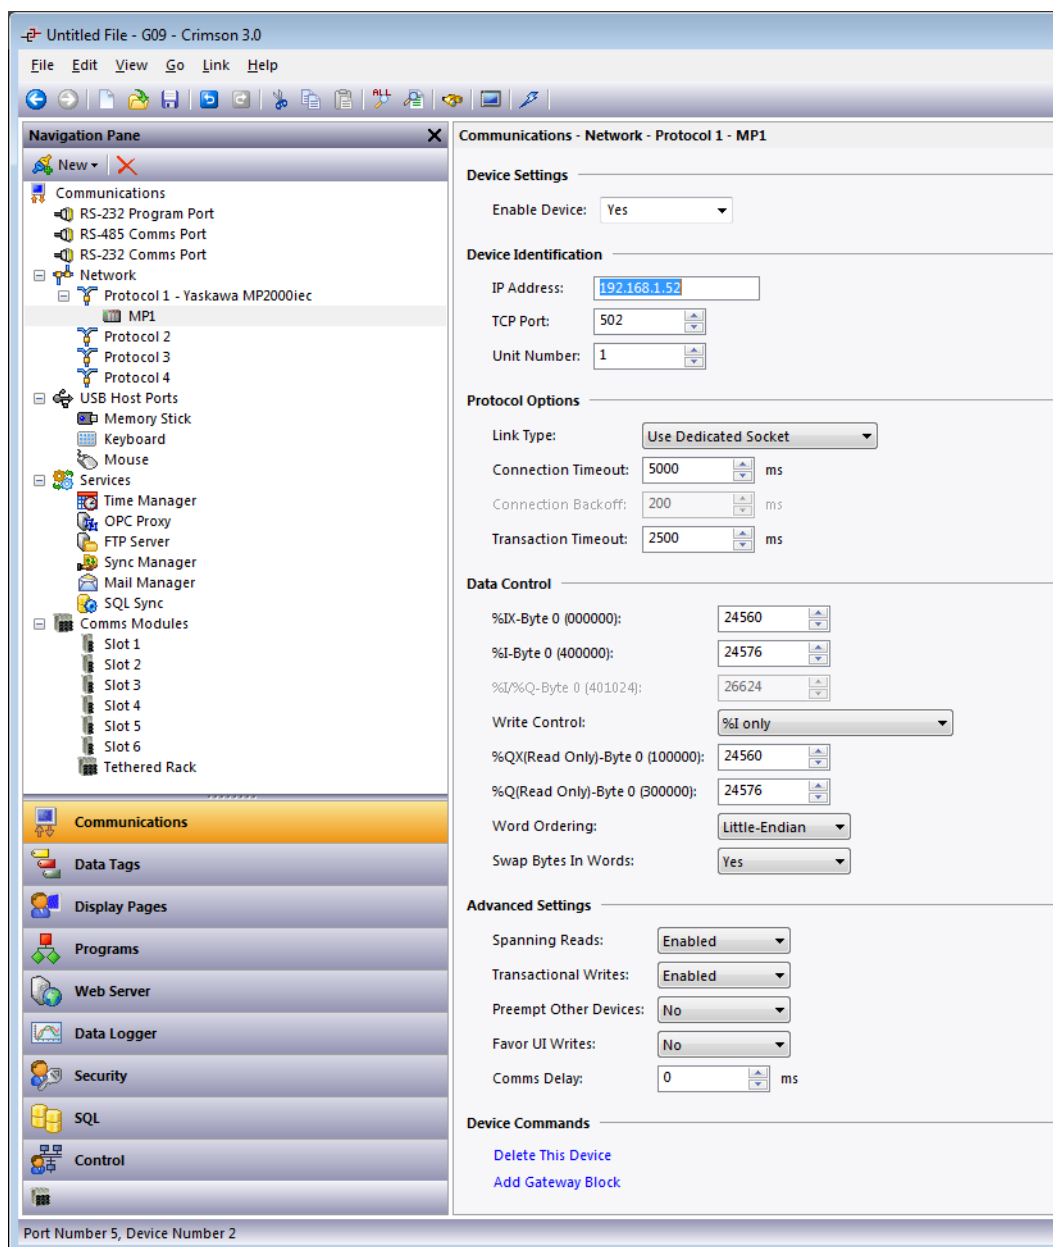

Figure 3.
5. A new device called “MP1” is created in the Navigation Pane, as shown in Figure 3.
6. Click on MP1, which displays the popup specifying the communications settings for the newly-created device, as shown in Figure 3.